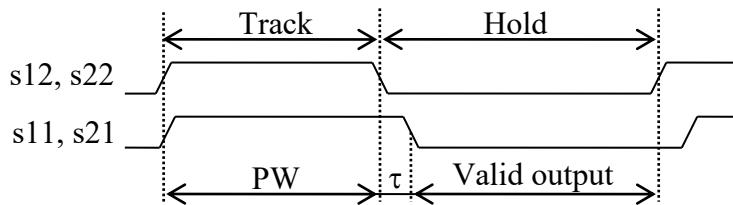

Fig. 3. Sampling Diagram
The input clock buffer converts the external clocks **c1p/c1n** and **c2p/c2n** into two pairs of internal signals **s11/s12** and **s21/s22** with controlled pulse width (PW) and delay (τ) between them as shown in Fig. 3.